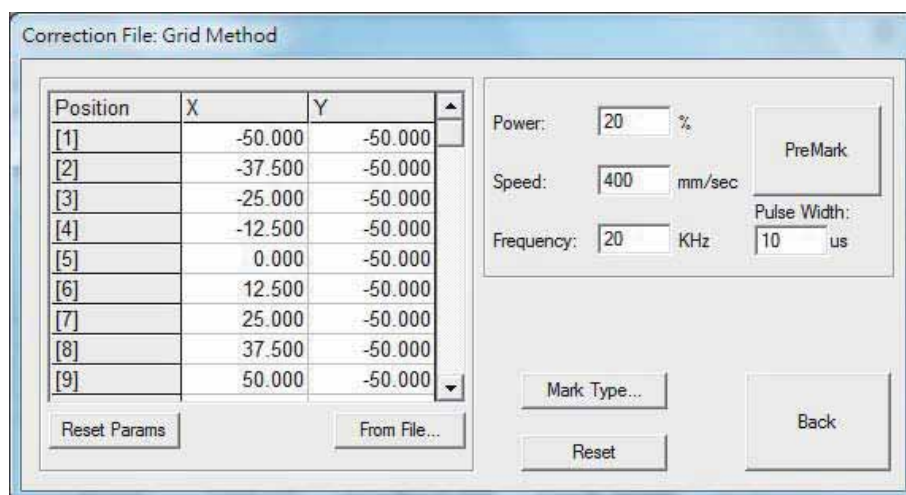

Fig. 1.1.48
- Step 1** Select the scale (K) value which is close to the voltage ratio of lens and driver output from the drop down menu. Then select the correct dots. More correct dots will get more accurate result.
- Step 4** Click the “Input Data” button for next step, see Fig.1.1.48.